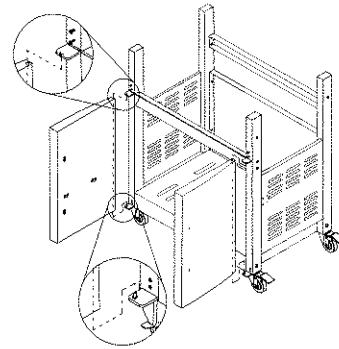

Figure 8
3. Attach door handles to door panels by using 5/32" x 10mm philips head screws. Attach condiment rack to right door.(Fig.8)